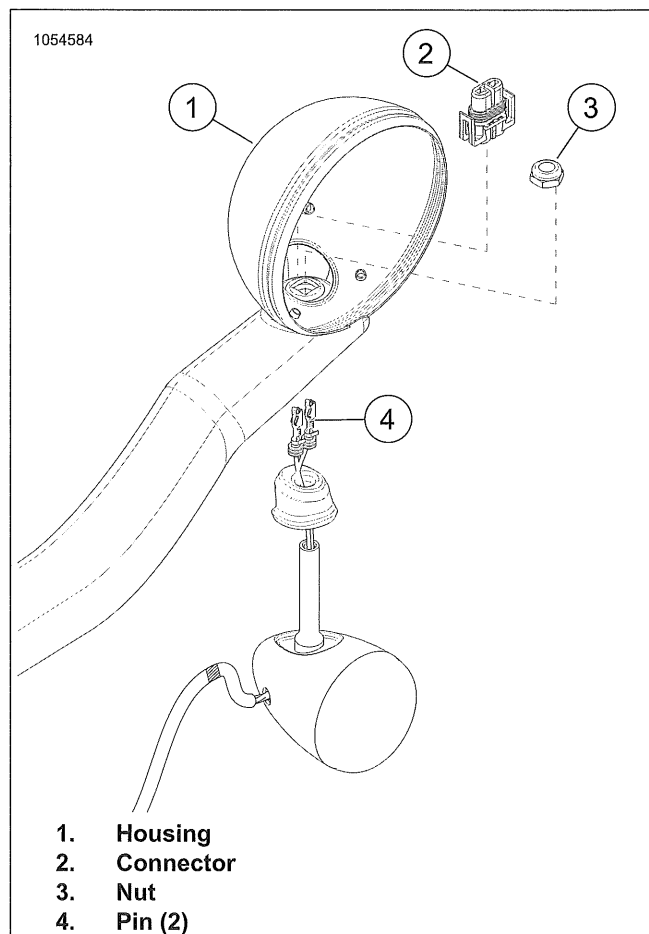

Figure 7-66. Auxiliary Lamp Housing with Incandescent Signal
- See Figure 7-66. Loosen nut (3).
- Adjust housing (1).
- d. While holding auxiliary lamp housing (1) steady, tighten nut (3)